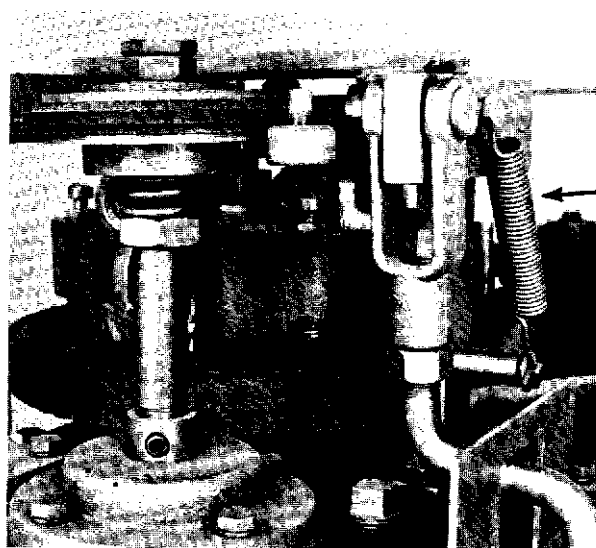

Fig. 9-22
- (9) Install the clutch operating mechanism and secure with the four bolts.
- (10) Connect the clevis pin and secure with a cotter pin.
- (11) Adjust the clutch. Refer to: Adjustments "Clutch".
E. Clutch Linkage Spring (Fig. 9-22).